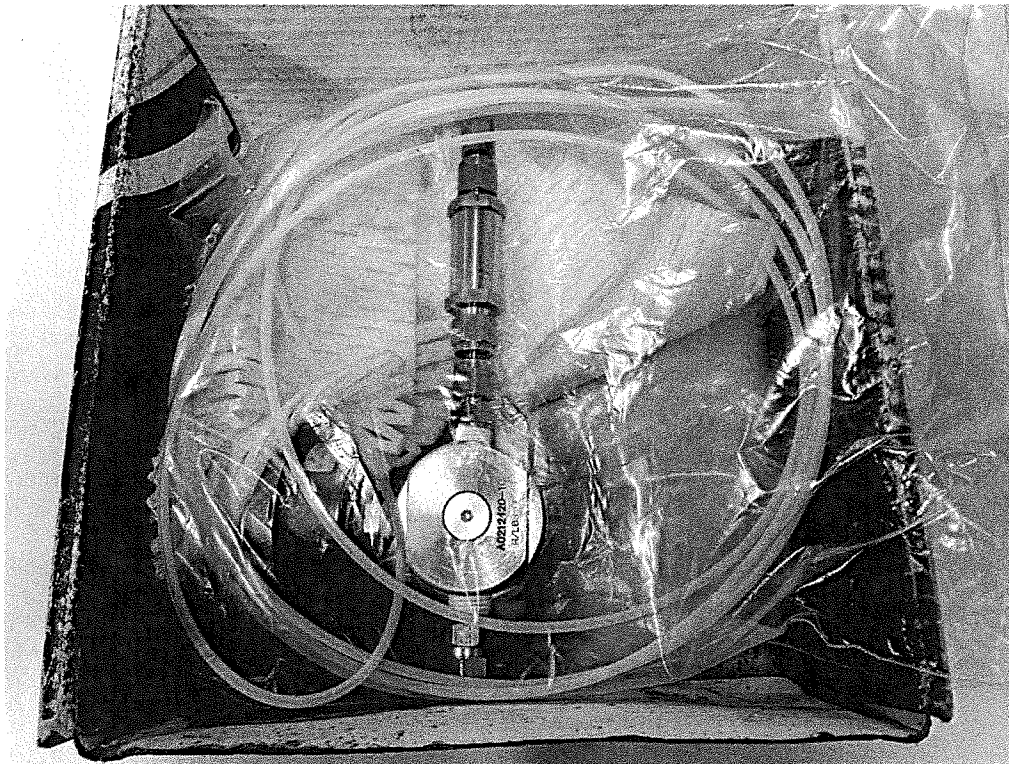

Figure 4. Properly stored mechanical regulator
- 3.1.20 Place the regulator with PTFE tubing inside the shelter and loosely coil the tubing, making sure not to kink the tubing (Figure 4).